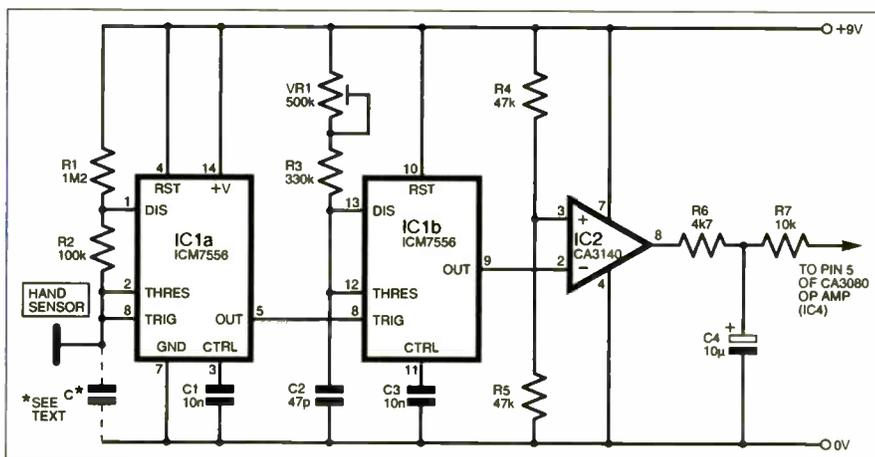

Fig.2. Theremin Volume Control circuit diagram
**I**N the *EPE Theremin* (Oct '04), Robert Penfold commented that his method for volume control gave a somewhat abrupt variation. Fig.2 shows an alternative, which still adheres to the concept of using hand capacitance to change the volume, but has the advantage of a nice gradual action whilst still allowing a tremolo effect to be obtained by fluttering the hand or fingers.